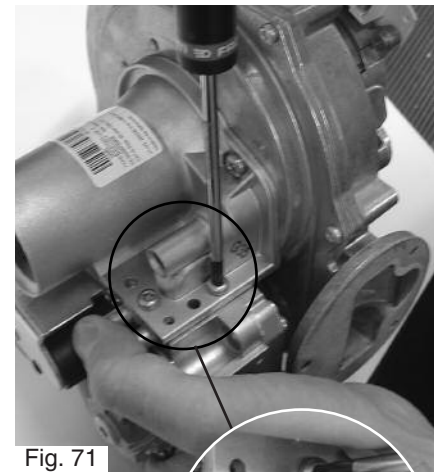

Fig. 71
4. Unscrew the three screws holding the gas valve on the venturi (Fig. 71);